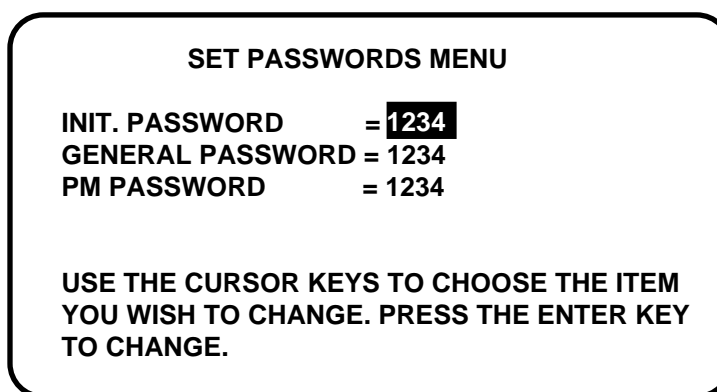

Figure 4-22. Set passwords menu
3. The display shows the Set Passwords menu, Figure 4-22.